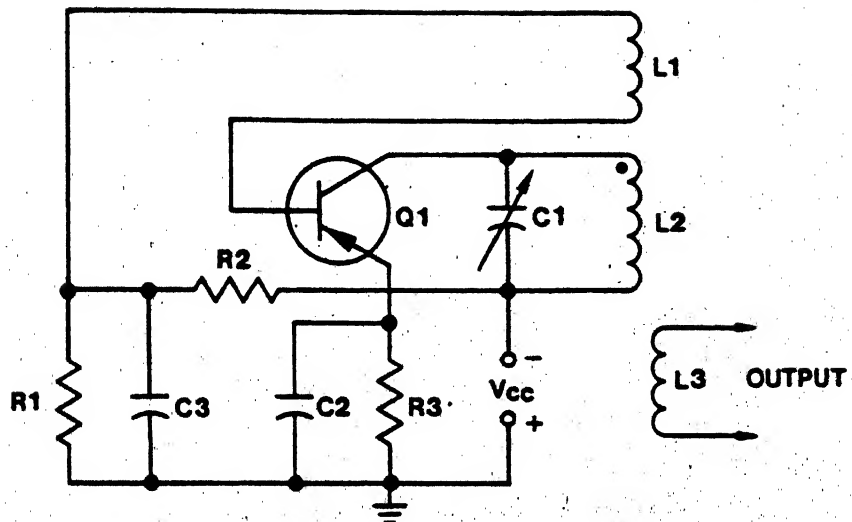

Figure 2
In troubleshooting oscillators you should understand that if either circuit, tank or amplifier, fails to operate there will be no output. (See Figure 2). The only other problem you might encounter is a bad feedback circuit (usually consisting of one component).
3. In figure 2, which inductor determines the frequency of oscillation?
4. In figure 2, the purpose of transistor Q1 is to